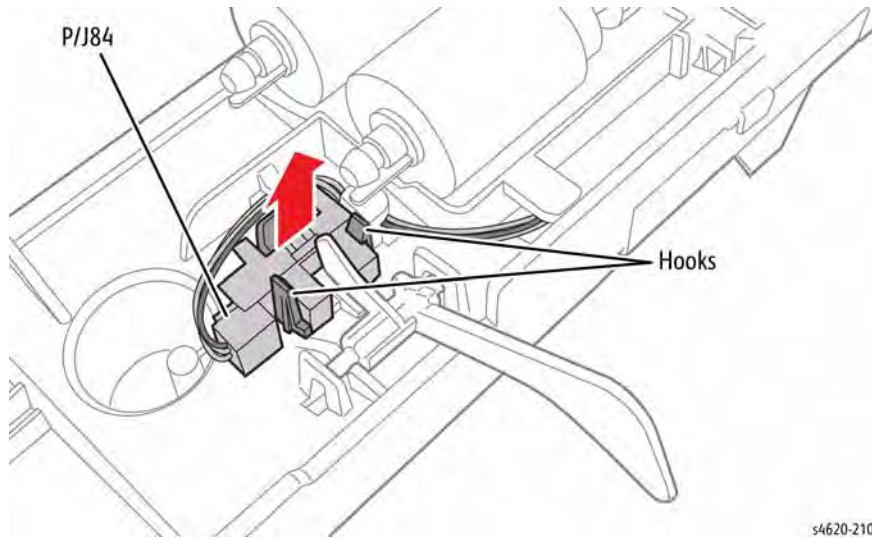

Figure 3 Remove the No Paper Sensor
13. Turn the assembly over and release 3 hooks that secure the sensor to the Feed Assembly. Figure 3.